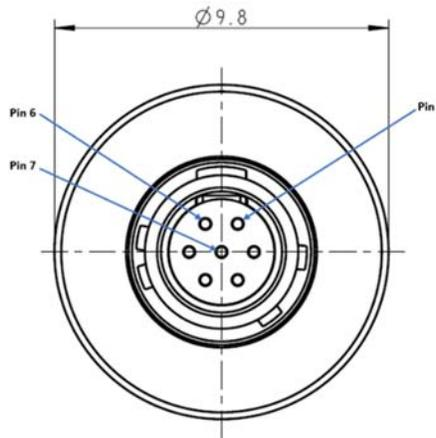

Figure 7 - MC1 - 7 Pin Circular Connector (ODU GKCWAM-P07WBC0-000L) pin numbering
**Note that the MU1-001 uses use the “B” keyway** of this connector family. The MU1-001 connector, from the perspective of looking at the connector from the outside of the LRF, is numbered according to Figure 7.
Note that the MC1-001 uses the “A” keyway of this connector family. The MC1-001 connector, from the perspective of looking at the connector from the outside of the LRF, is numbered according to Figure 7.